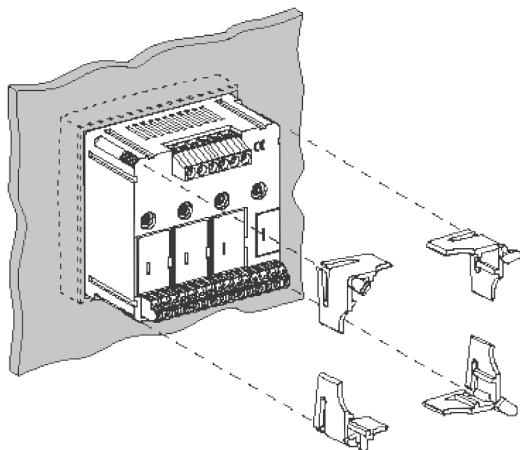

Figure 2      Mounting
2. Secure the device from behind with the four clamps, as shown in Figure 2.